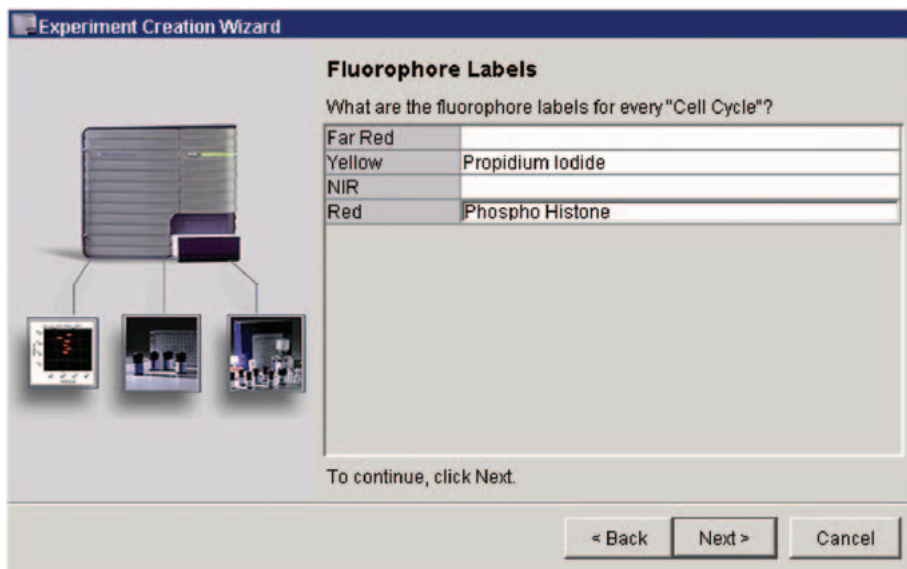

Figure 6
- The Fluorophore Labels view appears (*Figure 6*). The labels will appear as axes labels in the plots displayed in the Template view.